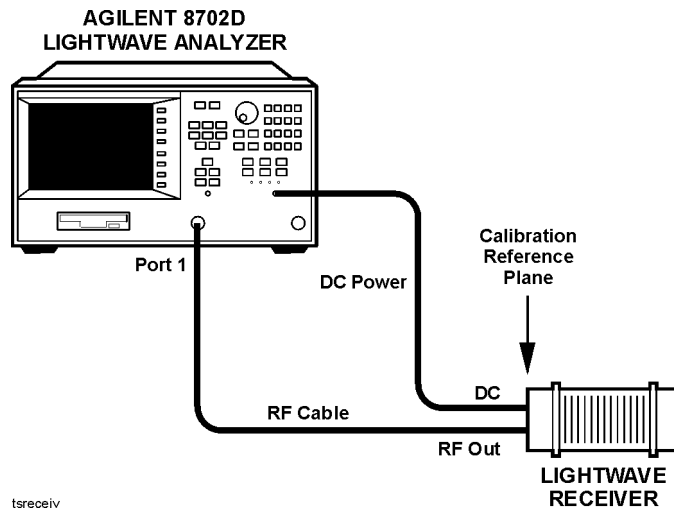

Figure 4-4. RF port match test setup
- 1 Connect the equipment as shown in Figure 4-4.